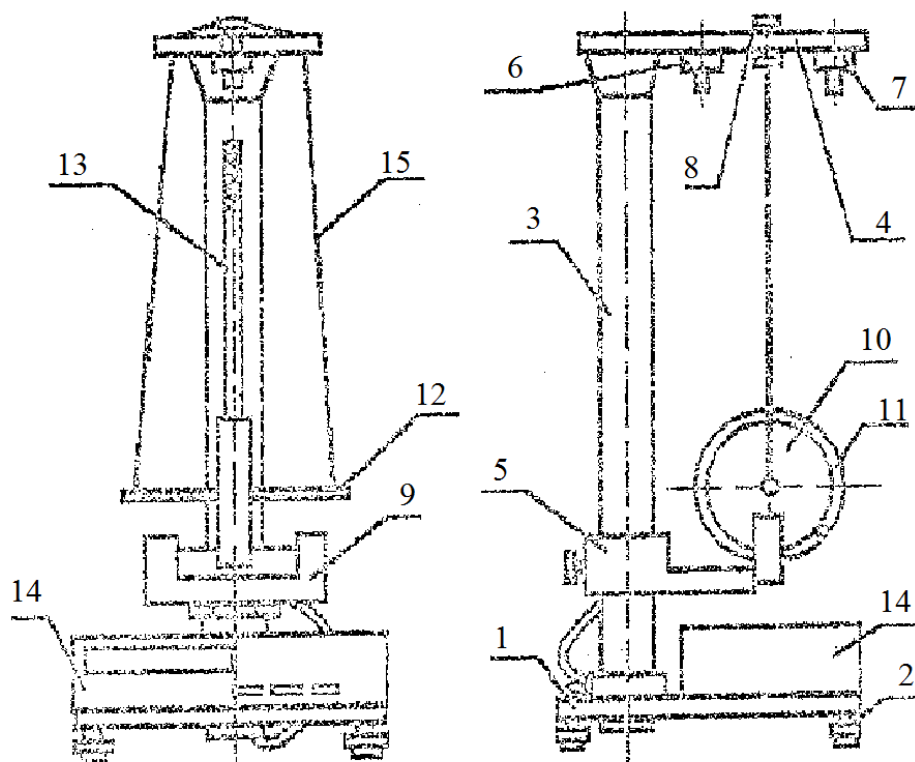

Figure 3.
Figure 3 shows the general look of the Maxwell's wheel. The basis 1 stands on regulating legs 2 used for levelling. The basis holds the column 3 with fixed upper arm 4 and movable lower arm 5. The upper arm contains the electromagnet 6, photoelectric sensor 7 and the tap wrench 8 for fixing and regulating the length of the thread 15. The lower arm with the photosensor 9 can be moved and fastened in different positions on the column.
The front panel of the timer is shown in Fig. 3. The button “Сеть”/“Power” switches the apparatus on; the lamps in the photosensors should start glowing. The button “Сброс”/“Clear” is used to set the timer to zero. The button “Пуск”/“Start” controls the electromagnet: upon pressing this button, the magnet is turned off and the timer goes to the time measurement regime.
2. Choose the thread length so as to the rime of the metallic ring in the lowest position is two millimeters lower than the photoelectric sensor. At the same time correct the position of the wheel so that its axis is parallel to the basis (horizontal). The regulation is made using the wrench 8 (Fig. 3).